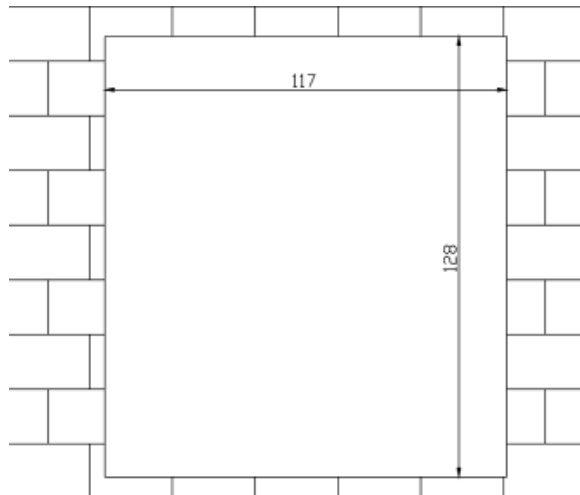

Figure 5- 4
- b) Embed metal bracket into wall until its four peaks lean against the wall. See Figure 5- 2.